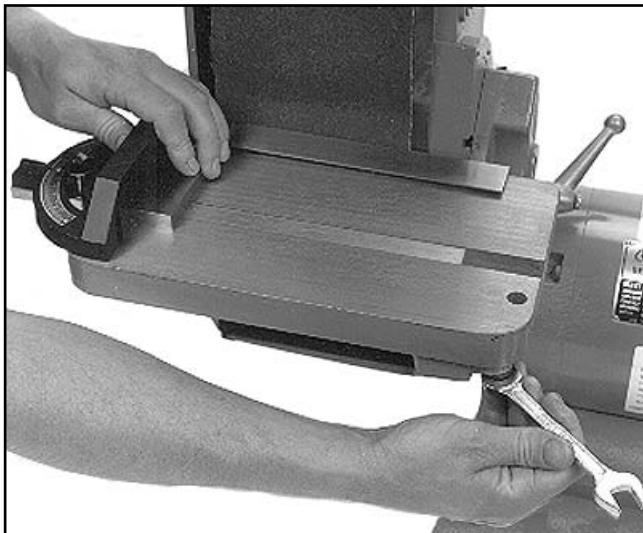

Figure 8. Squaring belt table.
2. Place the miter gauge in the table slot and, with a high-quality machinist's or combination square against the face of the miter gauge, check the tables for squareness against the sanding surfaces. See **Figures 8 and 9**.